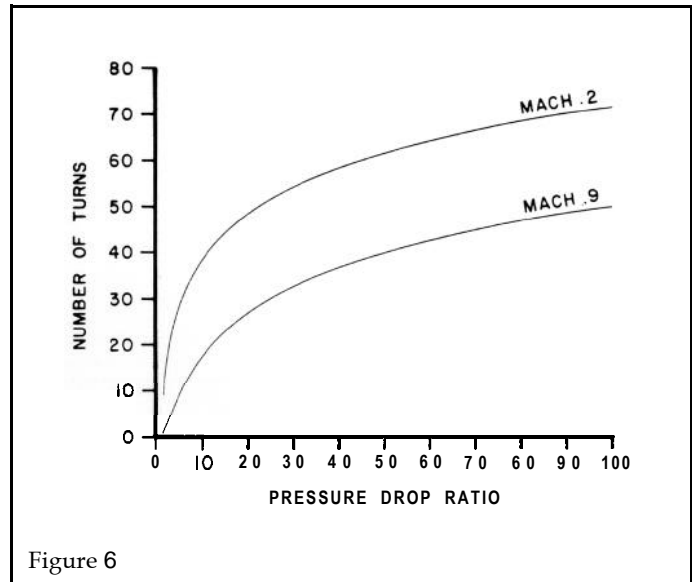

Figure 6
4. Using Figure 6, check that the selected turns allow the Mach number to fall between 0.2 and 0.9. If the number of turns is below the 0.9 requirement, select the number of turns from Figure 6 to meet the 0.9 requirement. If the number of turns is greater than the Mach 0.2 requirement, select the number of turns to meet the 0.2 level. Tests have shown that little noise reduction is achieved below Mach 0.2, so the additional turns are unnecessary. This does mean that the actual noise level will exceed the requirement. The predicted noise level can be calculated using the equation in step 3, above.